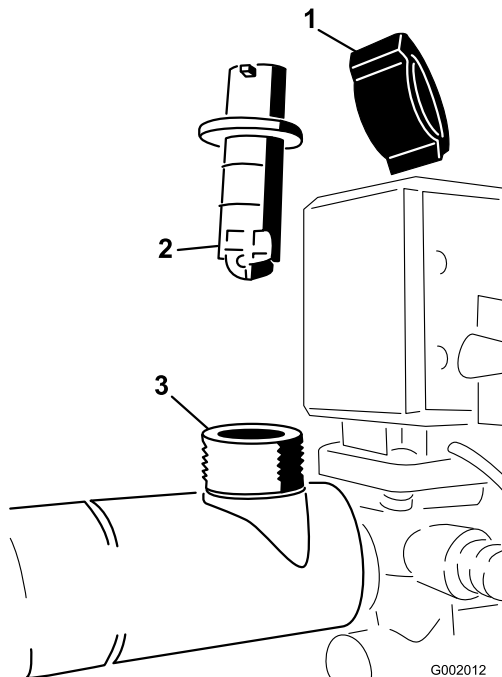

Figure 74
2. Remove the retaining cap from the flowmeter body (Figure 74).